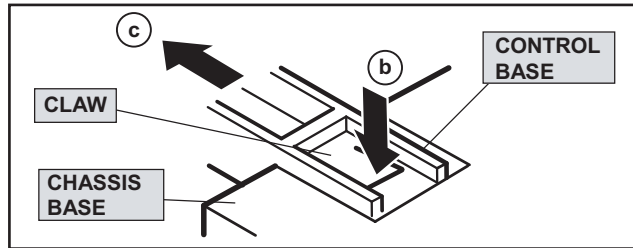

Fig.1
- (1) While pushing down the claws **[b]** as shown in Fig.1.
- (2) Remove the CONTROL BASE in the arrow direction marked **[c]**.